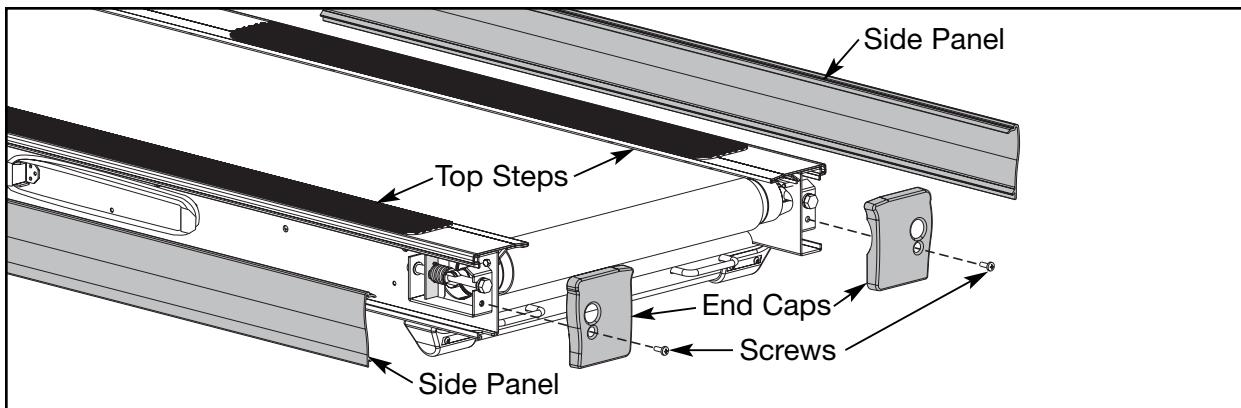

Figure 3
- A. Using a Phillips head screwdriver, remove the screw that holds each end cap in place. See Figure 3.
A. Pull each side panel out and off the treadmill. See Figure 3.
B. Grasp each top step and lift it out and off the treadmill. See Figures 3 and 4.
- A.** Using a Phillips head screwdriver, tighten the screw securing each end cap in place. See Figure 3.
- A.** Place each side panel into position slightly under the end cap and use your hand to push all along the bottom edge of the side panel to snap it in place. See Figure 3.